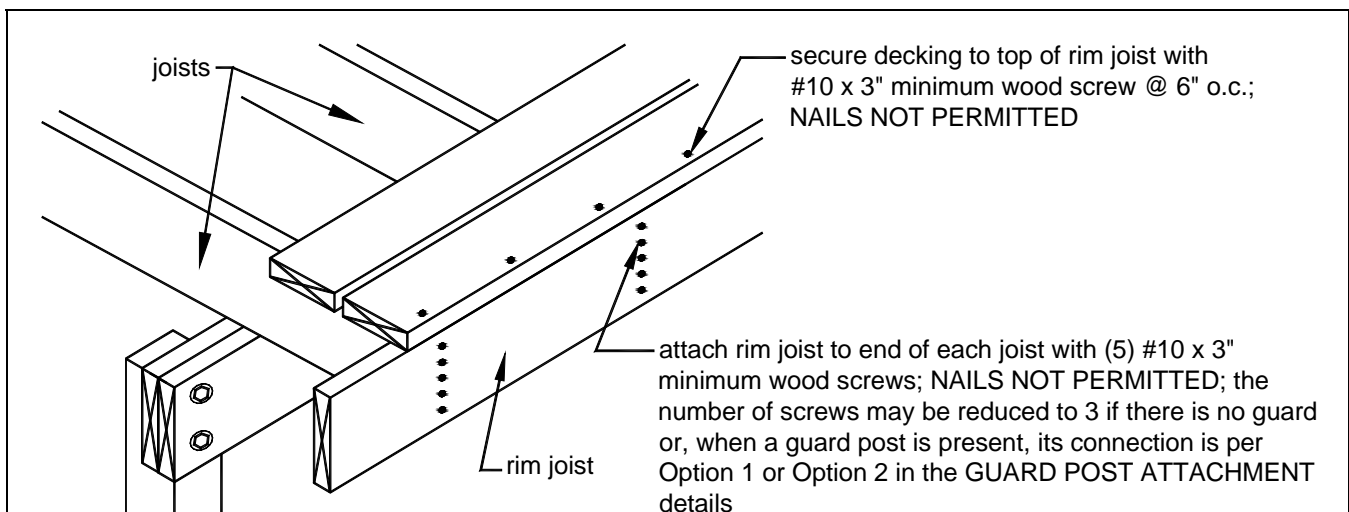
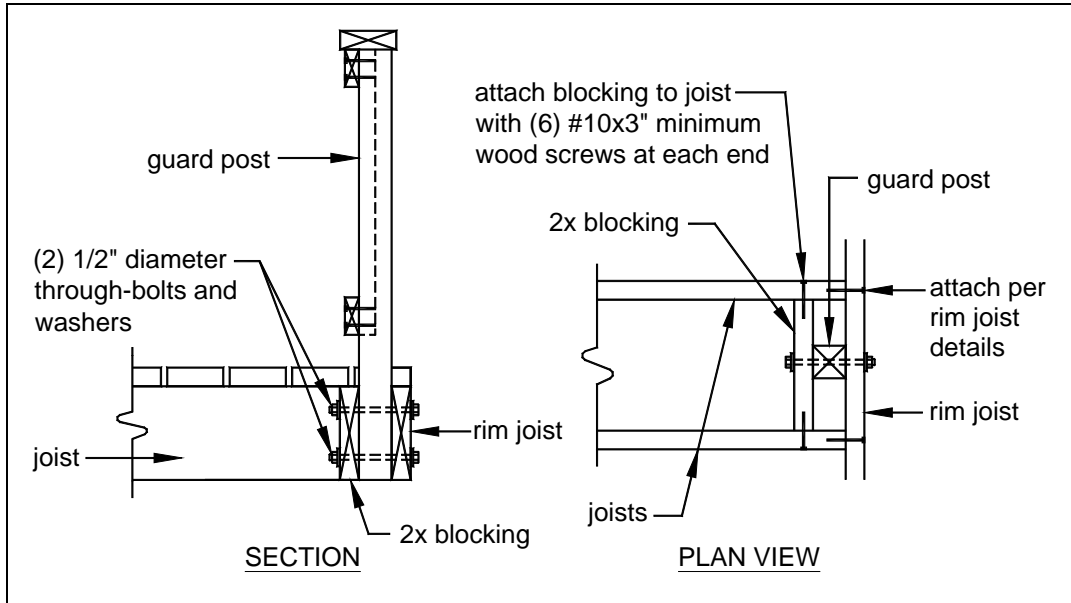
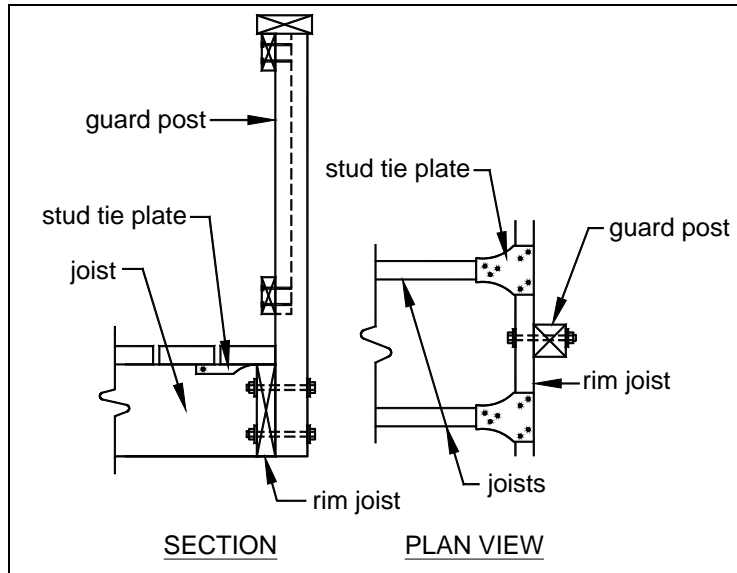

FIGURE 11: RIM JOIST CONNECTION DETAILS
FIGURE 29: GUARD POST TO RIM JOIST DETAIL, OPTION 1
FIGURE 31: GUARD POST TO RIM JOIST DETAIL, OPTION 3
All decking material shall be composed of 2x6 or $\frac{5}{4}$ ("five-quarter") board. Other decking material may be used if approved by the Building & Codes Department. Attach decking to each joist with a minimum of (2) 8d nails or (2) #8 screws. See FIGURE 11 for decking connection requirements at the rim joist. Decking may be placed from an angle perpendicular to the joists to an angle of 45 degrees to the joists.
Attach a continuous rim joist to the ends of joists as shown in FIGURE 11. Attach decking to the rim joist as shown in FIGURE 11. For more decking attachment requirements, see DECKING REQUIREMENTS on Sheet 2.
GUARD POST TO RIM JOIST: Use one of the options shown in FIGURE 29 through FIGURE 31 to attach a guard post to a rim joist. See FIGURE 11 for rim joist-to-deck joist and decking-to-rim joist attachment requirements.
OPTION 1: As shown in FIGURE 29, guard posts are attached to the inside face of the rim joists. To attach guard post to the outside of the rim joist, see OPTION 2 or OPTION 3.
OPTION 3: As shown in FIGURE 31, the rim joist must be fastened to deck joists with two 20 gage *stud tie plates* attached per the manufacturer's instructions with hot-dipped galvanized or stainless steel fasteners. Look for model number SP1 in a Zmax coating from Simpson Strong-Tie or model number SPT22 in a Triple Zinc coating from USP. Other stud tie plate models meeting the minimum requirements may also be used.